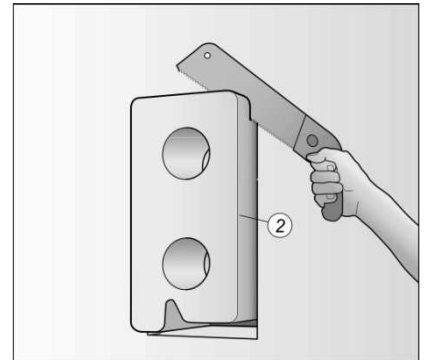

Abb. 7
- If the wall thickness is less than 365 mm, cut the mounting box (2) to length, until it is flush mounted to the exterior wall. Walls thicker than 365mm, will be compensated by the pipes. (Abb. 7)